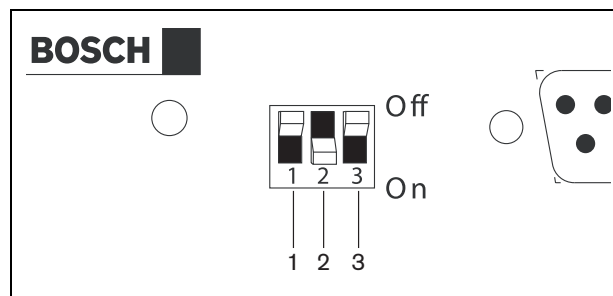

figure 5.2: Configuring Summer/Winter time (daylight saving time)
- 1 Locate the set of DIP switches on the rear panel (see figure 5.2).